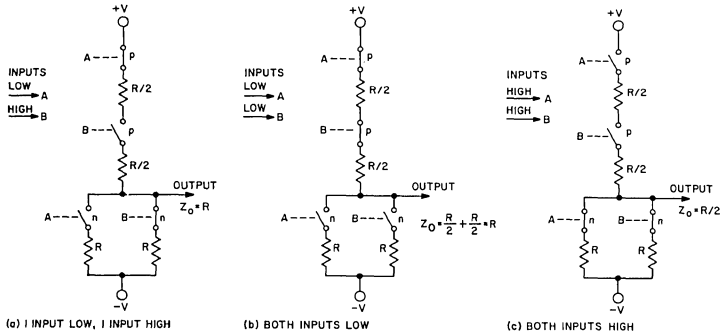

Fig. 4 — Variable output impedance of an unbuffered 2-input NOR gate. The resistors represent the on impedance of a p- or n-channel MOS transistor.
**Unbuffered**—Fig. 4 depicts the unbuffered 2-input-gate p- and n-channel MOS switches and appropriate on-channel resistances. Note that the two stacked p-channel switches are designed for an on resistance of  $R/2$ , so that the output impedance is  $R$  when both the logic inputs are low, Fig. 4(b). In Fig. 4(a) the output impedance is  $R$  to the negative supply terminal (usually ground) for an input logic state of 1, input high. Fig. 4(c) shows the condition when the unbuffered gate has an output impedance of  $R/2$  for both logic inputs high. Hence the variable output impedance of the unbuffered gate. For a 4-input gate, this variable is  $R$  to  $R/4!$  The maximum output resistance of RCA buffered or unbuffered gates is  $R$ . Thus, minimum  $I_{OL}$  and  $I_{OH}$  specifications for buffered and unbuffered gates are identical.